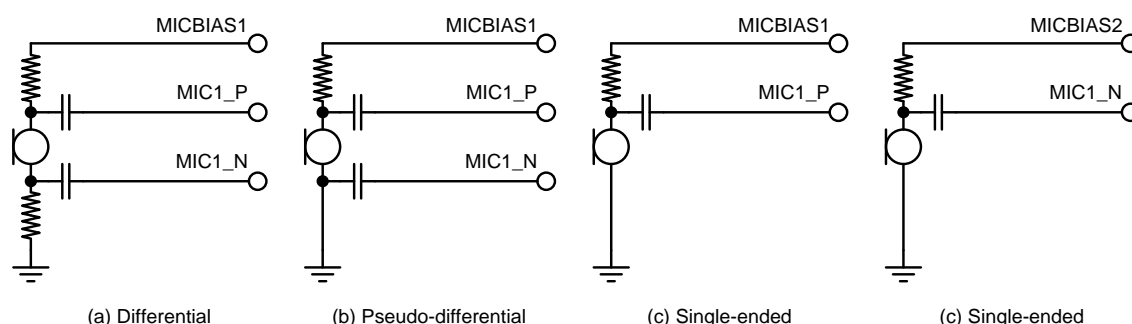

Figure 7: Typical microphone application for MIC1 (MIC2 is similar)
- single ended or pseudo-differential mode by connecting MIC1_N or MIC2_N to GND (see Figure 7). The microphone source is specified using MIC_1_AMP_IN_SEL and MIC_2_AMP_IN_SEL
- single ended or pseudo-differential mode by connecting MIC1_P or MIC2_P to GND (see Figure 7). The microphone source is specified using MIC_1_AMP_IN_SEL and MIC_2_AMP_IN_SEL
Single channel and dual channel digital microphone modules are supported. The dual channel modules change the output data on both the rising and the falling edges of the clock, as illustrated in Figure 7. In this case DMIC_SAMPLEPHASE must be set to zero in order to enable the sample detection at the edges of the clock. Each DMIC input is enabled via DMIC_L_EN / DMIC_R_EN and is associated with a clock edge via DMIC_DATA_SEL control.